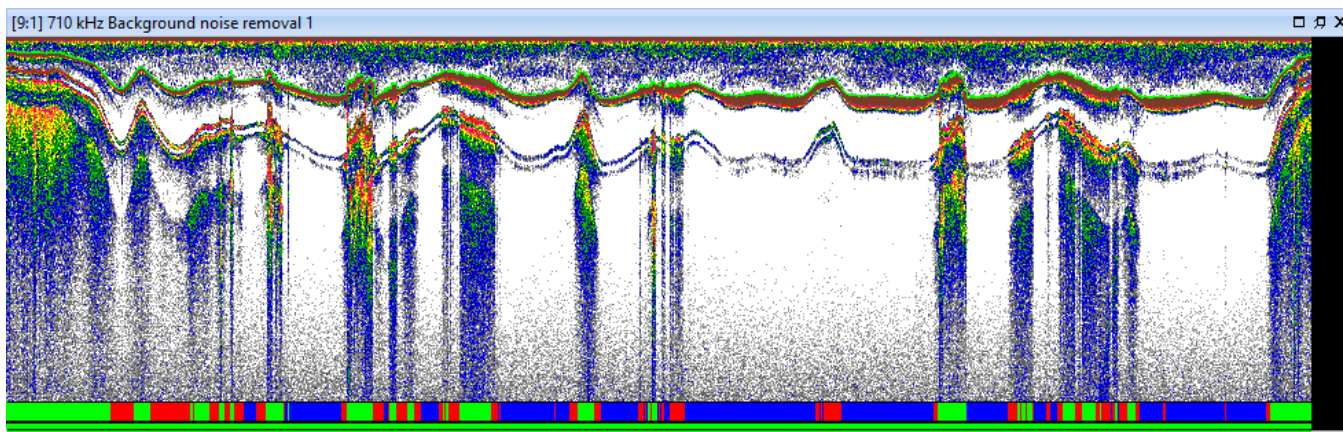

Figure 5. Echogram with bottom classification result integram shown along the bottom.
5. Review the integram for the **Background noise removal 1** echogram (Figure 5). As **Show bottom classification on integram** was selected on the **Classify Bottom** dialog box, the echogram displays the resulting bottom classification result class colors in the echogram integram area.